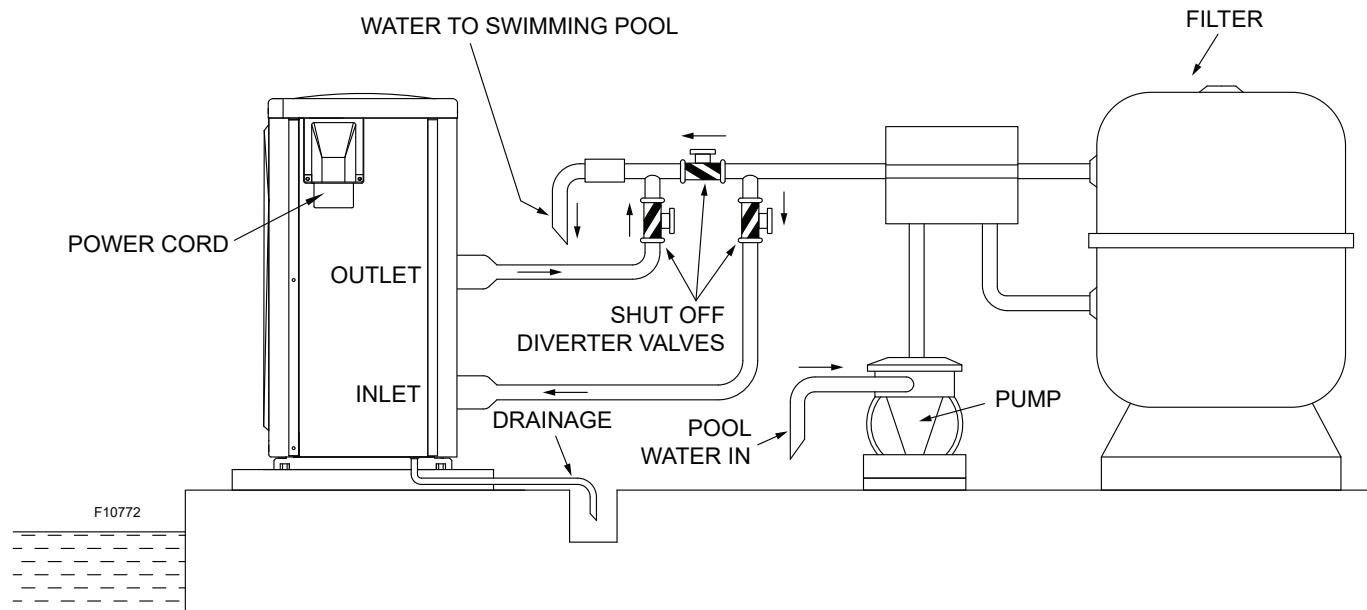

Figure 9. Swimming Pool Heat Pump Piping Layout
See plumbing diagrams starting with **Figure 9**.
1. Connect the heater in the return water line between the filter and the pool/spa. See the piping layout shown in **Figure 9**.
Install any automatic chemical feeders downstream of the heater. See the piping layout shown in **Figure 9**.